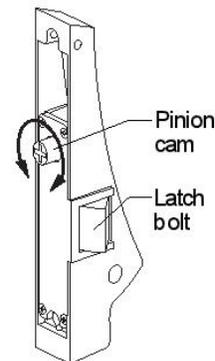

Figure 2
5. If cylinder is used, set pinion cam on back of active housing for hold-back (HB) or night latch (NL) operation (Figure 2).